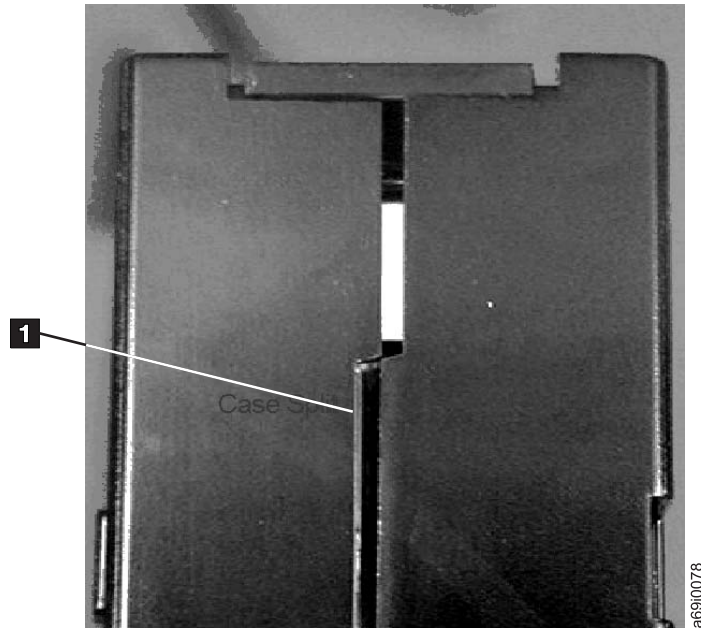
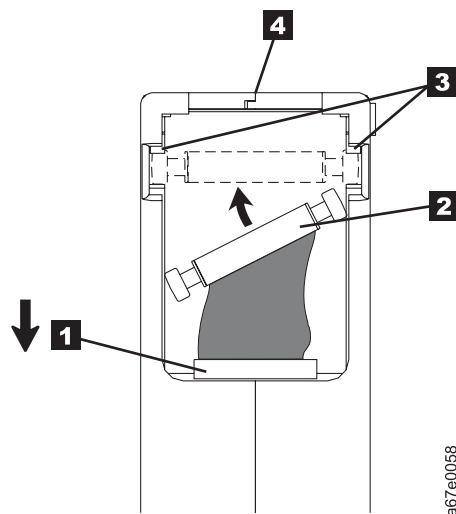

Figure 6-7. Checking for gaps in the seams of a cartridge
Figure 6-9. Placing the dislodged leader pin into the correct position. The cartridge door is open to show the leader pin.
- Inspect the rear of the cartridge (the part that loads first into the tape load compartment) and ensure that there are no gaps in the seam of the cartridge case (see **1** in Figure 6-7 on page 6-10 and **4** in Figure 6-9 on page 6-12). If there are gaps in the seam (see Figure 6-7 on page 6-10), the leader pin may be dislodged. Go to “Repositioning or Reattaching a Leader Pin” on page 6-11.
Example: Split Cartridge Case (see Figure 6-7)
1. Slide open the cartridge door (**1** in Figure 6-9) and locate the leader pin **2** (you may need to shake the cartridge gently to roll the pin toward the door).